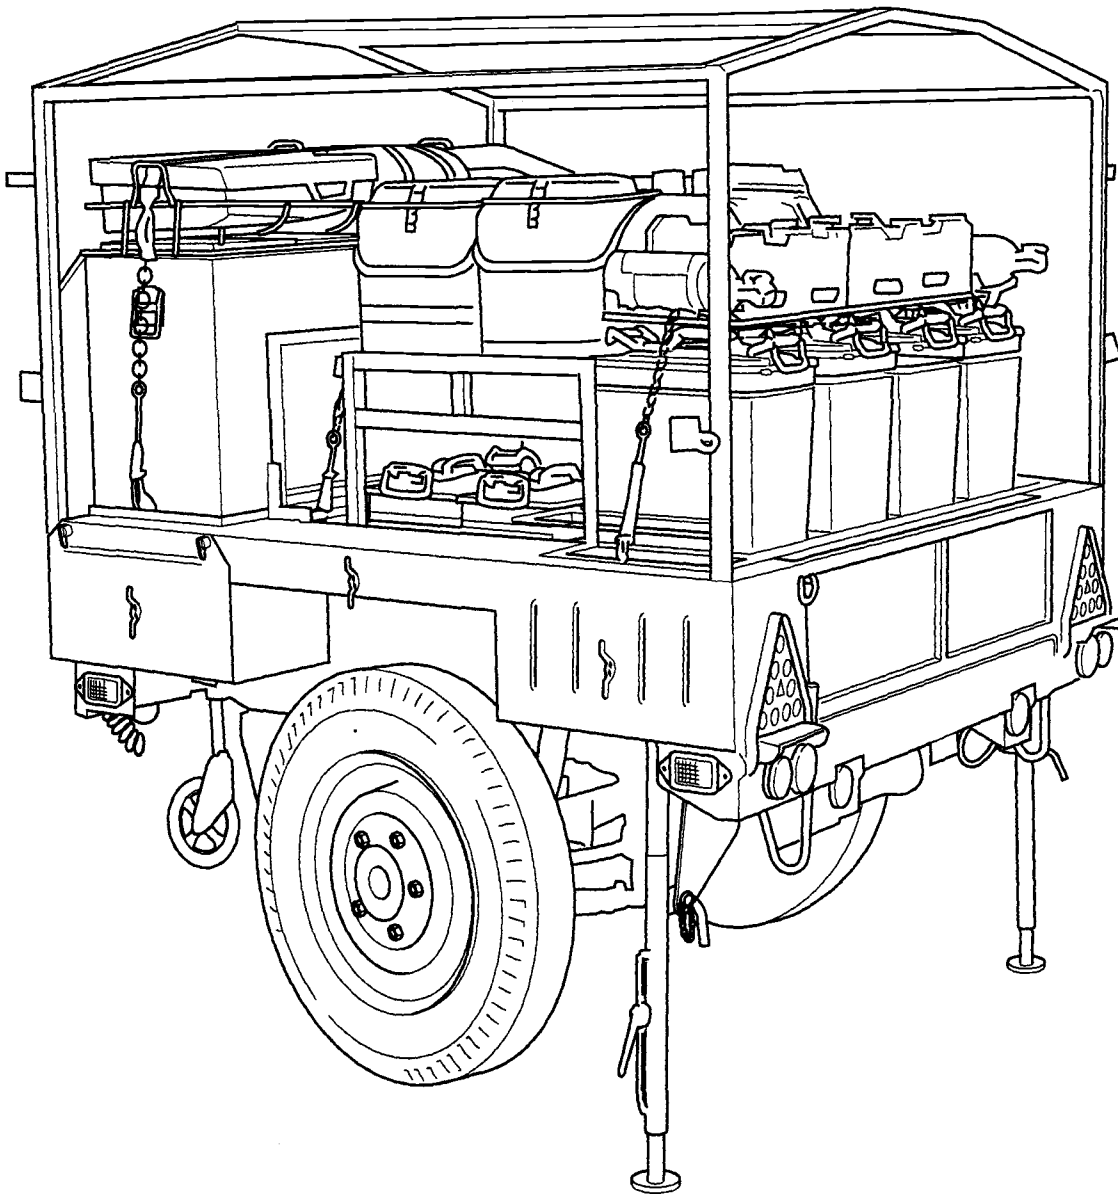

Fig 3 Tables removed
- 4 Remove tables, as shown in Fig 3, by releasing clips and lift clear.